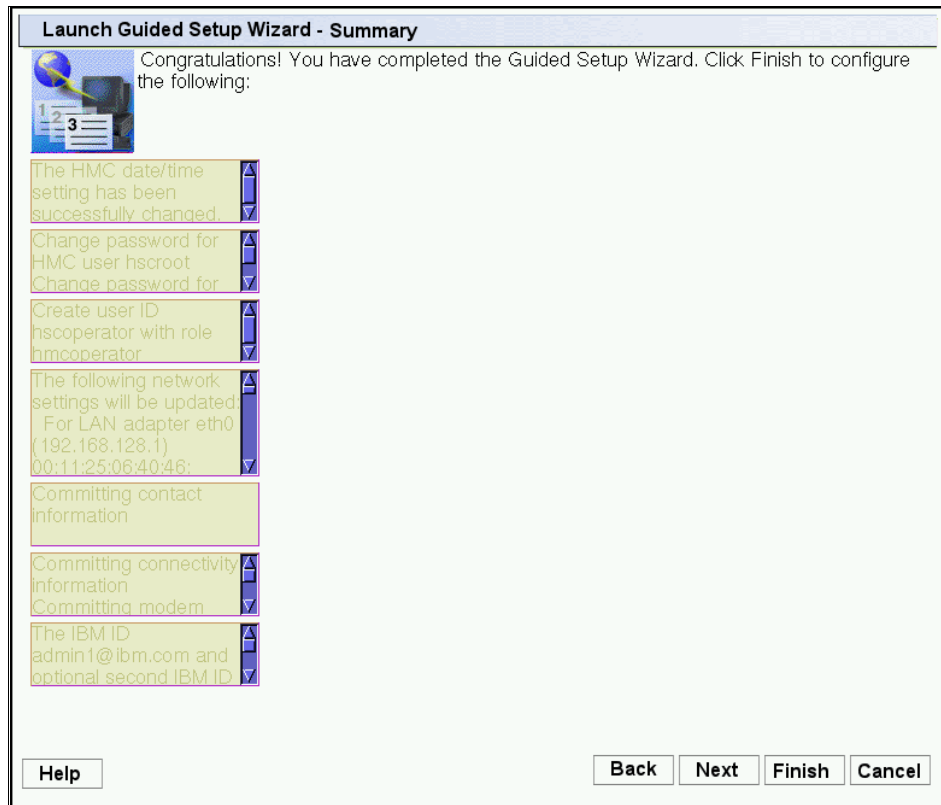

Figure 3-53 Launch Guided Setup Wizard - Summary
45. Click **Next** to continue with the Guided Setup wizard. The Launch Guided Setup Wizard - Summary window displays (Figure 3-53). You can see all the changes that the Guided Setup wizard configures later. At this stage, nothing has actually been changed on the HMC. You can cancel the changes by clicking **Cancel**.